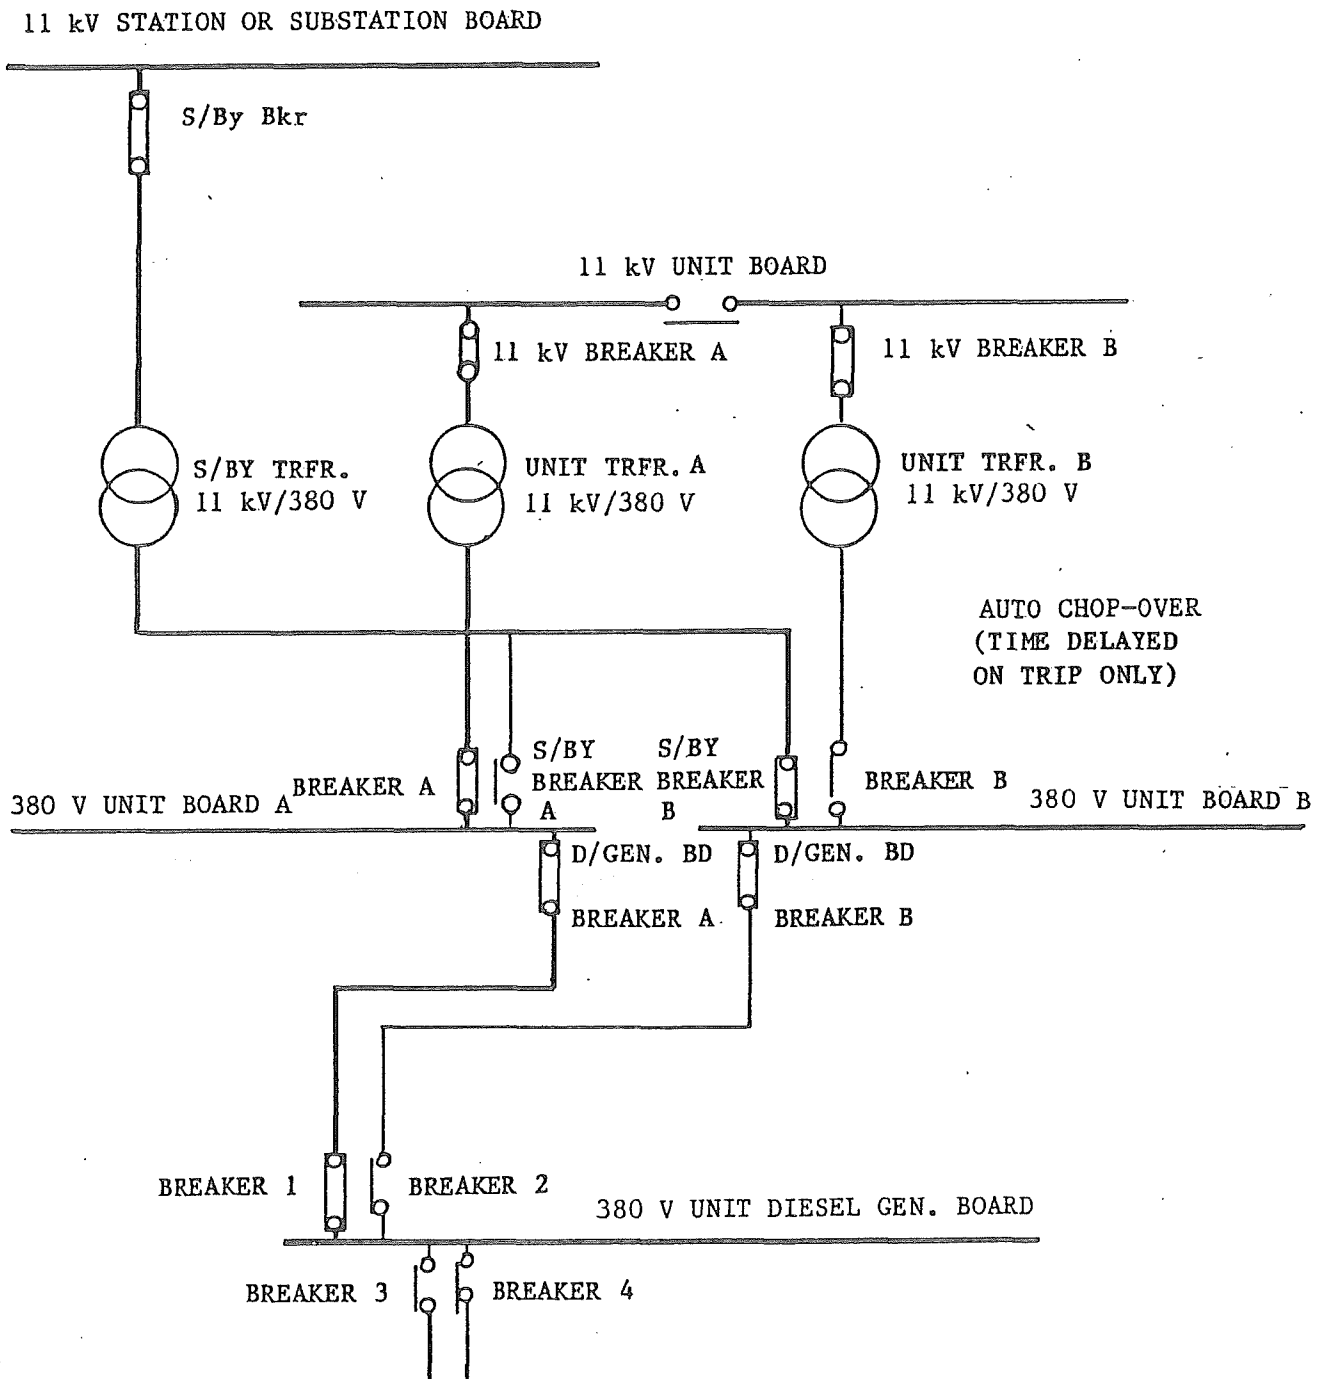

Fig. 64: Normal supplies to 380 V unit board B failed
2.4.2 Loss of supply to 380 V unit board B (Fig. 64)